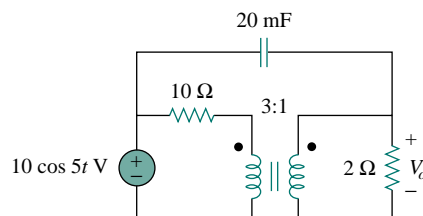

Figure 13.100 For Prob. 13.33.
- 13.33** For the circuit in Fig. 13.100, find V_o . Switch the dot on the secondary side and find V_o again.